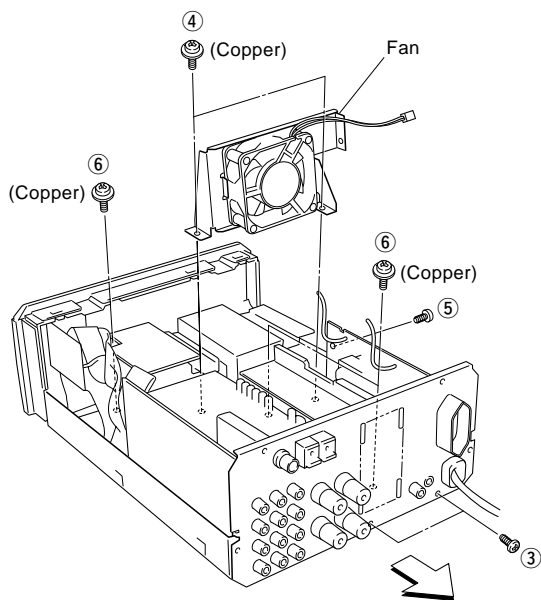

Fig. 2
- b. Remove 2 screws (③) attaching the rear panel to the chassis. (Fig. 2)
- d. Remove 3 screws (④, ⑤) attaching the fan to the chassis and then remove the fan. (Fig. 2)
- e. Remove 3 screws (⑥) attaching the Main P.C.B. to the Heat Sink. (Fig. 2)
- g. Move the Amp Unit toward the rear. (Fig. 2)